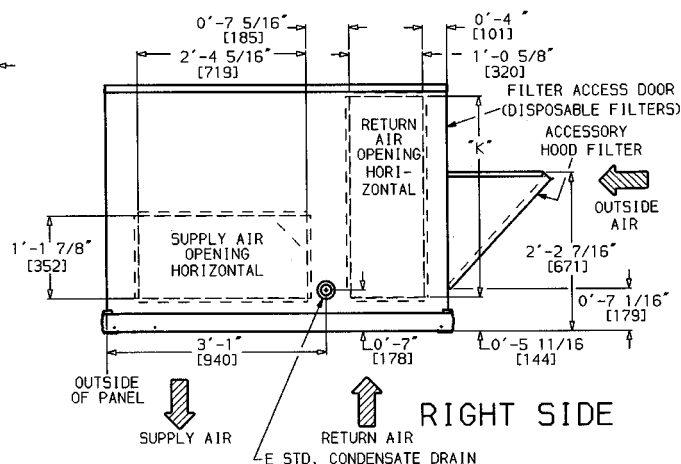

Fig. 6 — Base Unit Dimensions
2. Pass control wires through the hole provided on unit (see connection D in Connection Sizes table in Fig. 6).
NOTE: If thru-the-bottom power connections are used refer to the accessory installation instructions for information on power wiring. Refer to Fig. 6 for drilling holes in basepan.